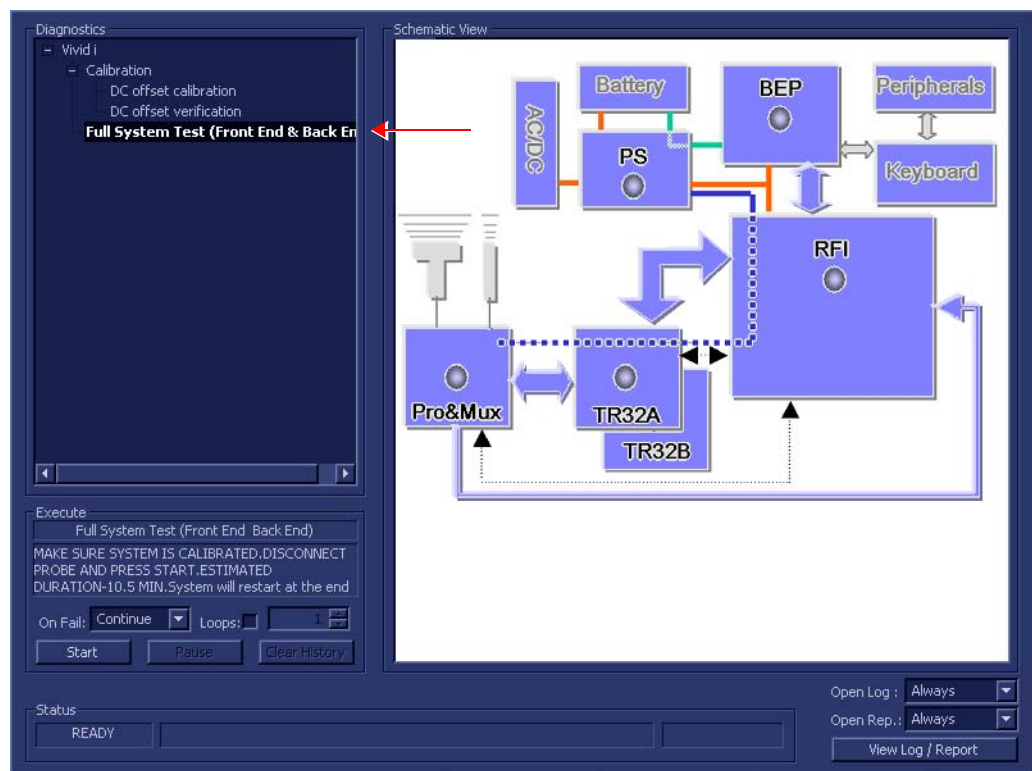

Figure 7-4 Full System (FE and BEP) Test
- In the *Diagnostic Test* window, trackball to **Full System Test (FE and BEP)** in the list of tests available for selection from the Diagnostic Test Tree (see Figure 7-4 below) and press **Set**. The Full System Test (FE and BEP) name is displayed under *Execute*, and all system components are highlighted blue in the Schematic View, as shown below: